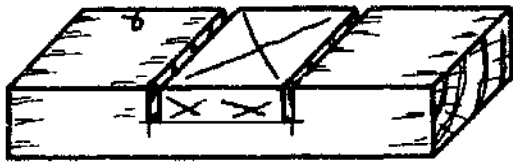

Fig. 7
- Saw down to the gauge lines of the socket, keeping on the waste side of the lines (Fig. 7).